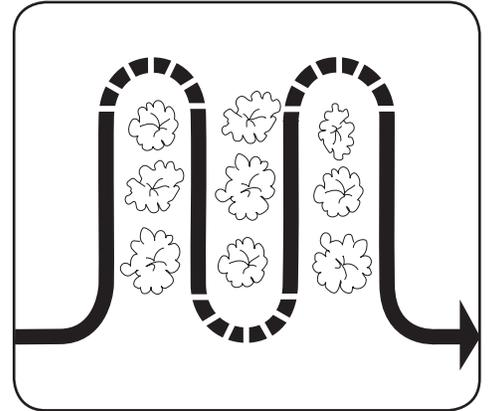

Figure 4-10
- With planning, you can allow enough room between rows to cultivate. See Figure 4-10. Leave extra room for future plant growth.